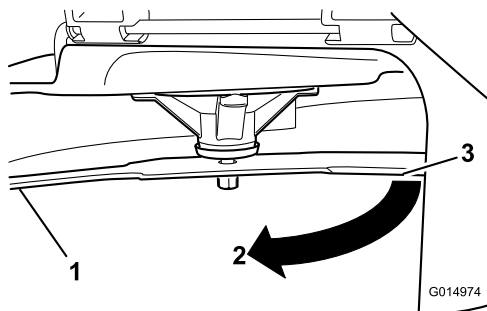

Figure 46
3. Second measured distance between blade and surface (B)
4. Rotate the same blade 180 degrees so that the opposing cutting edge is now in the same position (Figure 46).